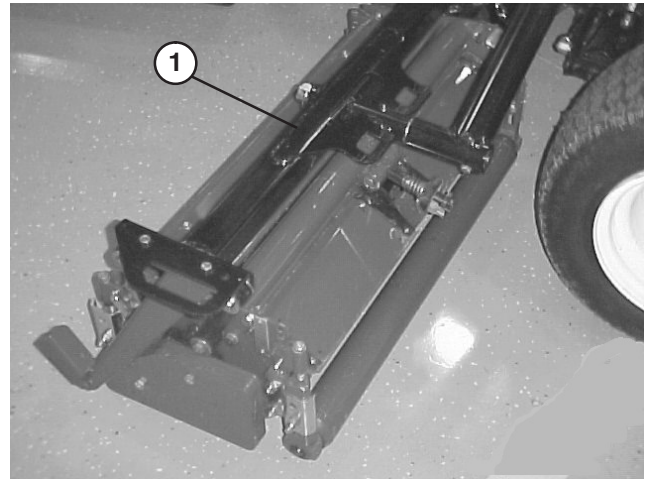
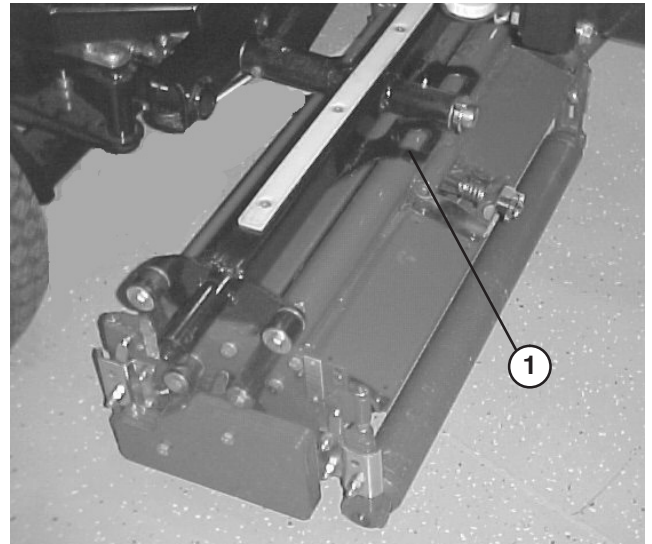
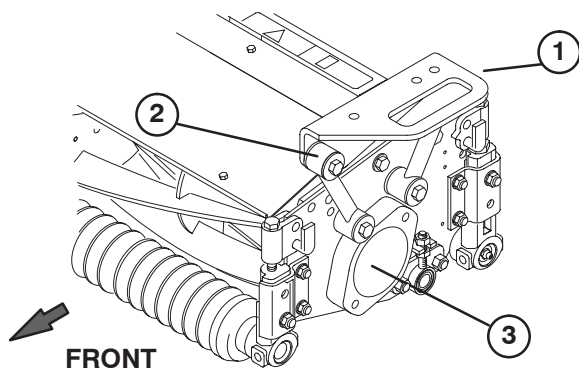

Figure 15
Figure 16
Figure 17
Note: With lift arms fully raised, hoses should be routed as shown in figure 17 and clear lift arm by .04-.12".
- Position a front carrier frame (Fig. 15) onto each front cutting unit. Align mounting holes with mounting links as shown in figure 17.
- Position rear carrier frame (Fig. 16) onto rear cutting unit, aligning mounting holes with mounting links as shown in figure 17.
- Secure each mounting link to carrier frame with a 3/8-16 x 2-1/4" lg capscrew, (2) flatwashers and a locknut, as shown in figure 17. Position a washer on each side of link when mounting. Torque to 31 ft-lb.
3. Remove shipping plug from bearing housings on remaining cutting units (Fig. 17).